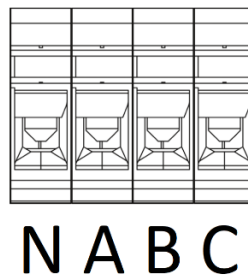

Figure 17 - AC Terminal Block Connections
4. Connect the three utility phase cables to the AC terminal block as shown in Figure 17.
5. The neutral connection (N) is provided for 4-wire grid-forming or standalone operation. This terminal should be left unconnected for grid-tie only applications. When the neutral connection is used, **REG 41829 – AC Connection Type** must be set to '1' to indicate 4-wire operation.